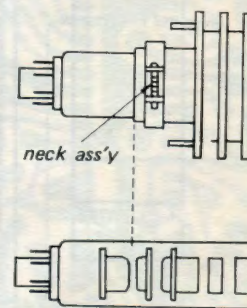
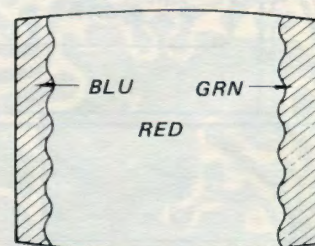

Fig. 3-2.
Fig. 3-3.
4. Position neck ass'y as shown in Fig. 3-2.
5. Disconnect leads ② and ③ on the C board.
6. Adjust purity control to center vertical red band as shown in Fig. 3-3.
- To get a uniform green screen, connect lead ③ and disconnect leads ② and ④ on the C board.
- To get a uniform blue screen, connect lead ② and disconnect leads ③ and ④ on the C board.
- After these checks, connect the leads ②, ③ and ④.